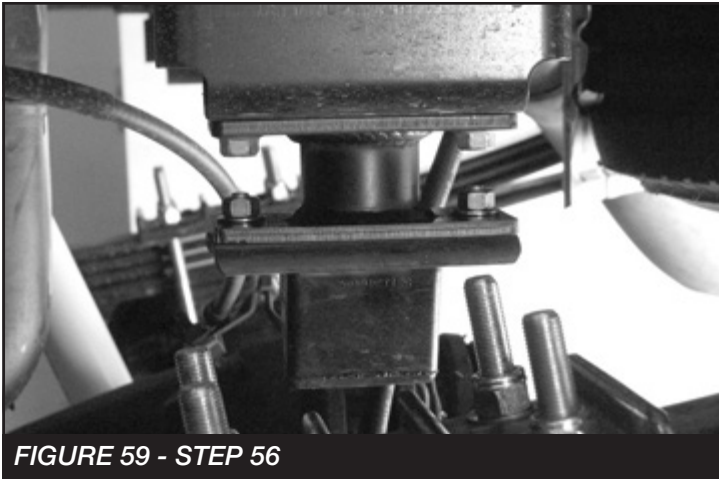

FIGURE 59 - STEP 56
56. Install the bump stop extension to the factory mount using the factory hardware and torque to 65 ft-lbs. Using 7/16"-14 x 1-1/4" bolt, nuts and washers, mount the factory bump stop to the extension. Torque to 59 ft-lbs. **SEE FIGURE 59**